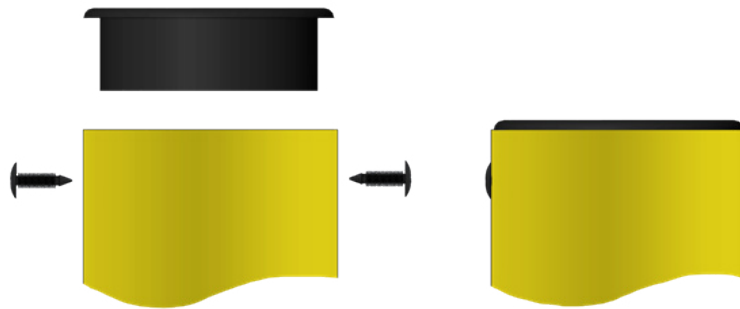

Figure 7. Installation and fixation of post caps
4. Close the tops of the posts with caps. After installing the caps, they must be fixed with screws (2 screws per cap). For this reason, drill 7 mm holes with a drill in the plane of the barrier symmetry in the post at a distance of 20-25 mm from the top of the yellow pipe of the post, and hammer the screws into them (the axes of these holes must be oriented in the same direction as the section elements, see Fig. 7). Installation of caps can be carried out both at the intermediate and at the final stage of the barrier assembling.